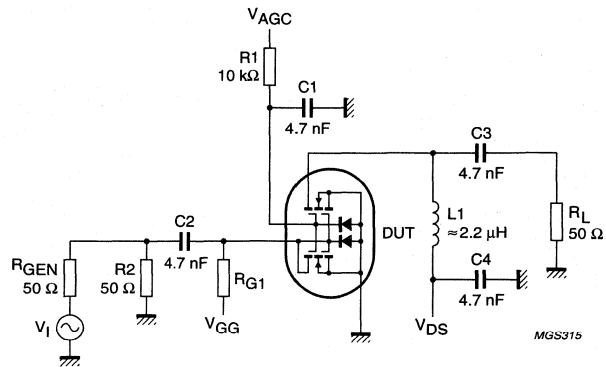

Fig.17 Cross-modulation test set-up (for one MOS-FET).
- Measured in test circuit of Fig.17.
$R_{G1} = 120 k\Omega$ (connected to V_{GG}); see Fig.17.